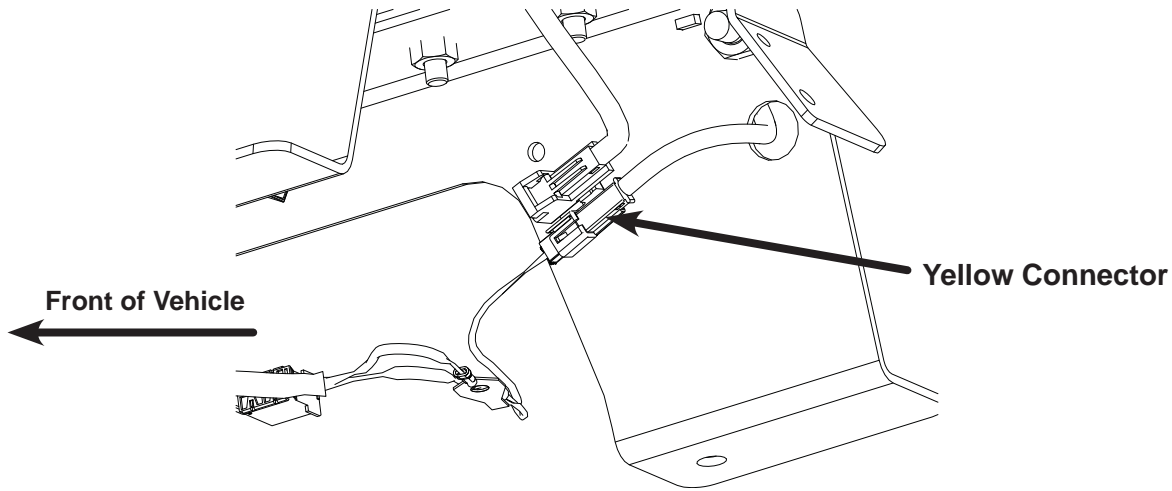

Fig. 21
33. If equipped with seat side airbag re-connect the yellow airbag connector accessible through top of fixed riser See Fig. 21